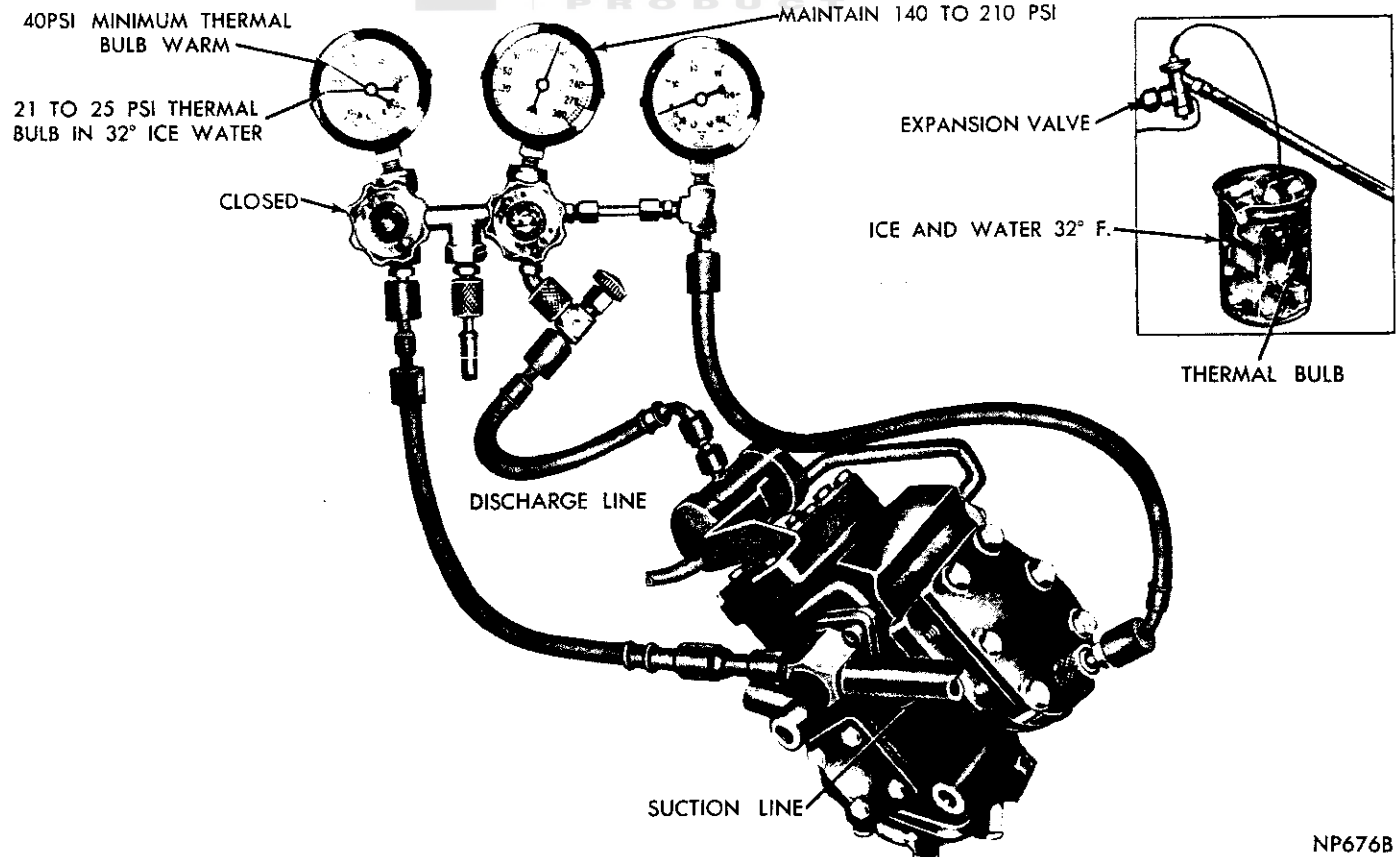

Fig. 9—Expansion Valve and EPR Valve Test Challenger
- (c) Under conditions in paragraph 2, immerse 5" of the sensing tube in a container of ice water at 32 degrees F. (Fig. 9 and 10). The pressure should read: